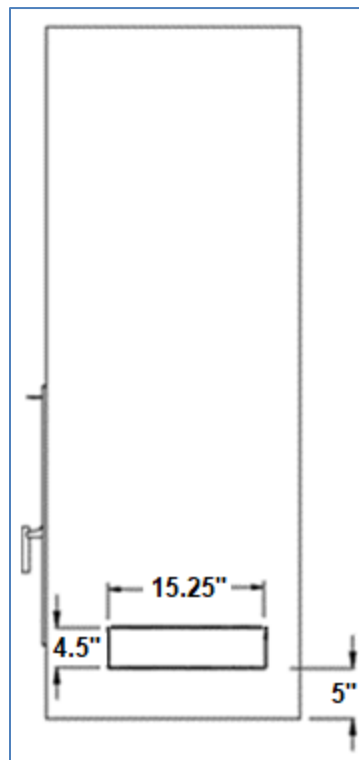

Figure 3-34 Opening for Air Intake
11. Determine the two locations of the air intakes on the chase and cut the rectangular openings of 15.25" (W) X 4.5" (H) (Figure 3-34).